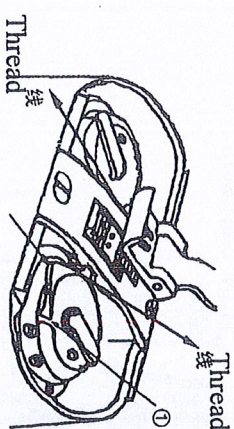
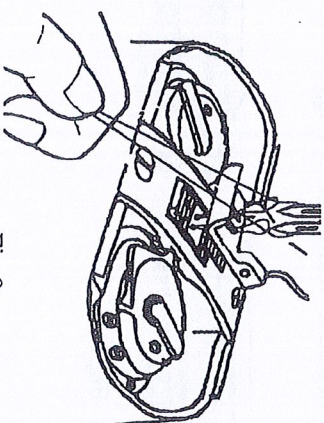

Fig. 7
Fig. 8
12. How to lead the lower thread (Fig.7, Fig.8):
(1) As shown in fig.7, from the slit (1) pass the thread underneath the hook body, and pull it to the right diagonally, and thread will pass through the tension spring (single needle). From the slit (1) pass the thread underneath the hook body, and pull the left thread to the left and the right thread to the right diagonally, and thread will pass through the tension spring (double needle).
(2) As shown in fig.8, holding the end of upper thread by left hand, turn the balance wheel slowly one around by right hand, the upper thread will hook out pulling the lower thread simultaneously through the hole of needle plate, and leave the lower thread to the other side of the needle plate. Close the slide plate.